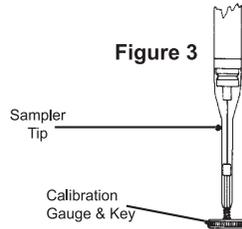

Figure 3
5. Using the calibration gauge and key, push the plunger into the sampler as far as it will go (see figure 3).